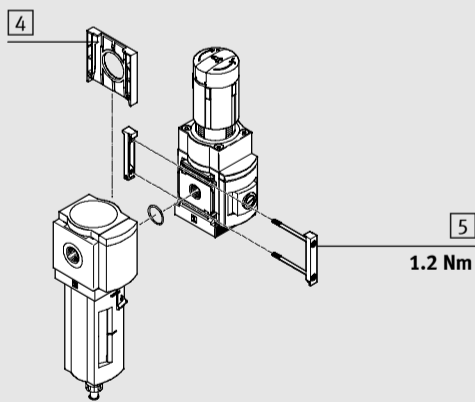

Fig. 4
2. Place the MS6-LRP(B) in the desired location.
3. Place the module connectors MS6-MV [5] in the grooves of the MS6-LRP(B) and the adjoining service unit. There must be a seal between the service units (→ Fig. 4).